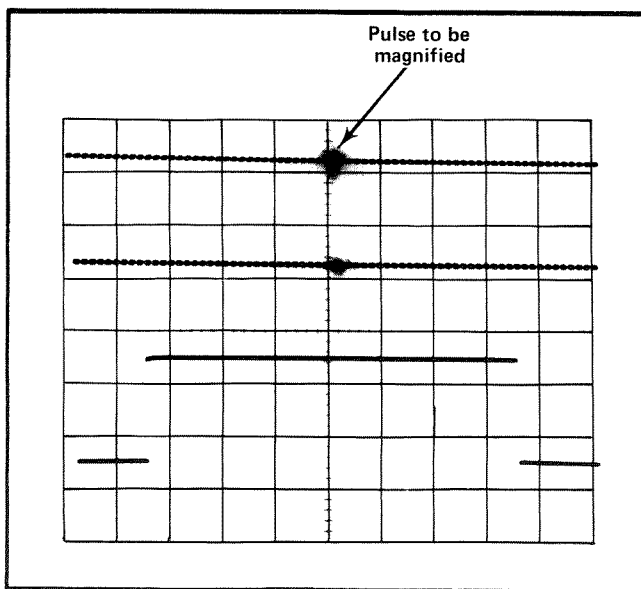

Fig. 2-13. Using delayed sweep for sweep magnification.
**Example:** The apparent magnification of the display shown in Fig. 2-13 with an A TIME/DIV setting of .1 ms and a B TIME/DIV setting of 1 μs is: